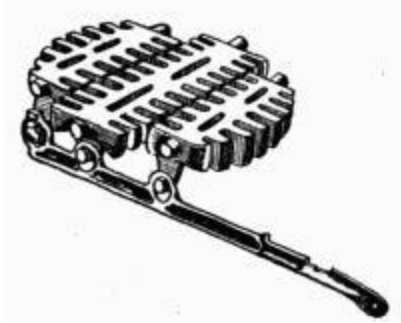

FIG. 1-a. Grate.
These grates are usually reversed by a stove shaker. (Fig. 1-a) shows a detailed drawing of a grate.) The housekeeper must understand how this is done in order to avoid reversing them when she shakes down the ashes. Two difficulties arise in reversing the grate when the stove is filled with fuel. The coal may be wasted by falling thru the part intended for wood, or pieces of fuel may fall between the parts so that they cannot be moved. When this happens, it is best to let the fire go out, take out the fuel, adjust the grates as they should be and rebuild the fire.
3. Drafts or Dampers. There are from three to six dampers on a stove (Figs. 1 and 2), as follows: